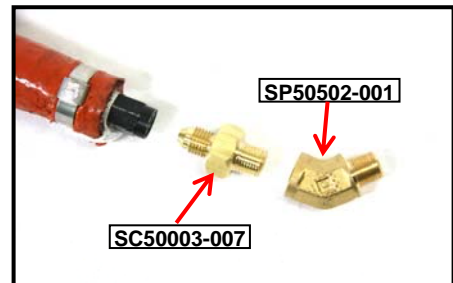

Figure 1 – Engine Fittings
5. Remove the engine fitting and replace with SP50502-001 fitting (45° Street Elbow) and attach a restricted fitting adapter SC50003-007 (male flare to male NPT), see Figure 1.